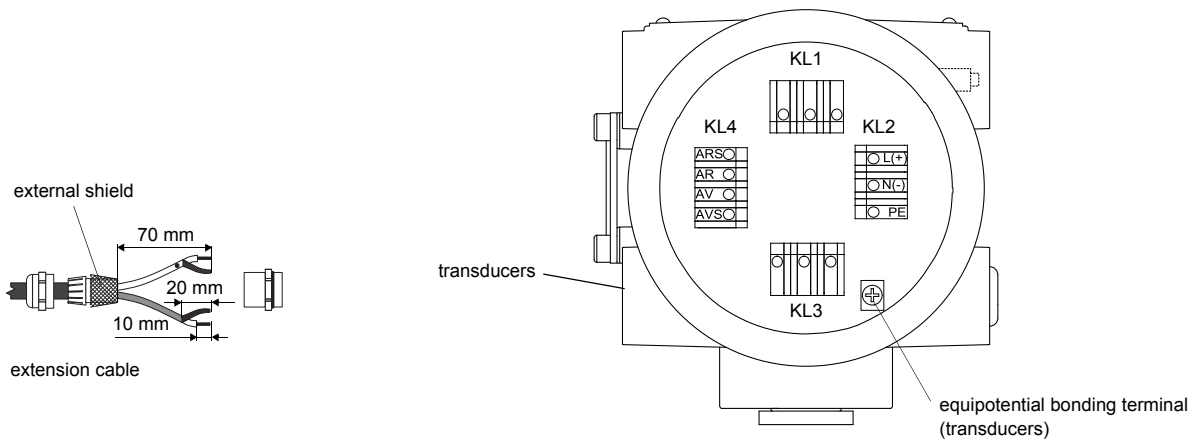

Fig. 6.14: Connection of the extension cable
- Connect the extension cable to the terminals of the transmitter (see Fig. 6.14 and Tab. 6.9).